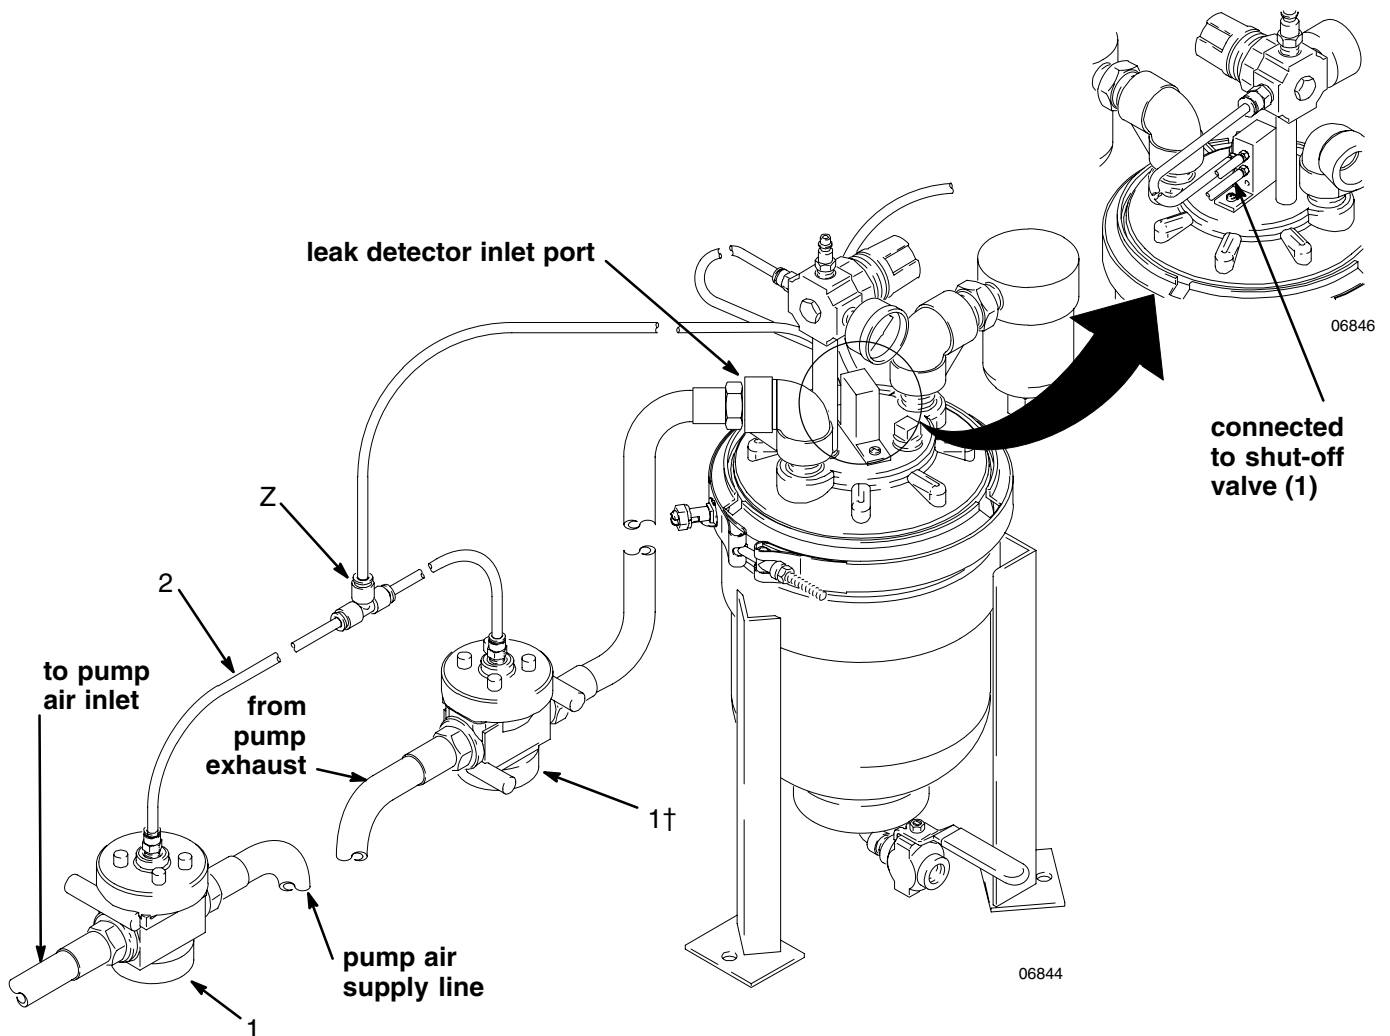

Fig. 4
Inlet Shut-Off Valve Kit 239114 is available. Parts included in the kit are marked with a dagger, for example (2†), in the **Parts Lists** on page 12 and in Fig. 4. In addition to the part marked with a dagger, the kit includes the following: 1/4-in tube x 1/8 npt tube connector, 3/4-in close SST nipple, brass tube tee, and sleeveless bushing.
Relieve the pressure. Install the new shut-off valve (1†) at the leak detector inlet. Run the original air line (2) from the tee (Z) to the original shut-off valve (1). Run the new air line (2†) from the tee to the new shut-off valve (1†) as shown in Fig. 4. Connect the pump exhaust line to the new shut-off valve.